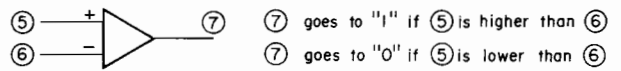
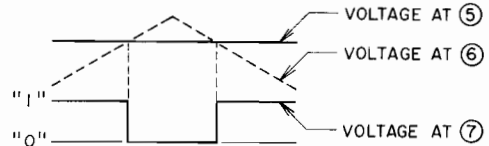

Fig. 24
Fig. 25
- 1) The reproduced signal is supplied to ⑫ of IC16 (L-ch) or to ⑬ of IC16 (R-ch) from the Pre Amp PCB. The L-ch or R-ch signal (switching between L-ch and R-ch is done with the input to ⑪ of IC16) from ④ of IC16 is applied to ② of IC2 and, after leaving IC2 through ①, is converted to DC by D4, D5, C24, etc.
- 2) ⑤, ⑥ and ⑦ of 1/2 IC2 make up a comparator. The relationship given in Fig. 24 may be expressed in terms of waveform as shown in Fig. 25.